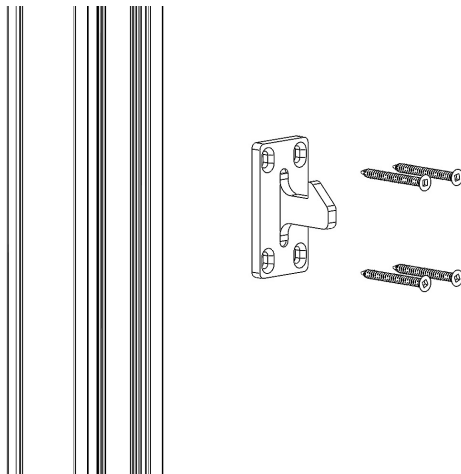

Figure 4
6. Drill four (4) $\frac{3}{16}$ " clearance holes at the marked locations of the strike plate. Anchor the lock strike to the jamb with #10 x 2-1/2" PH Flat Head screws. Shim as needed to avoid bowing the frame. (See Figure 4).